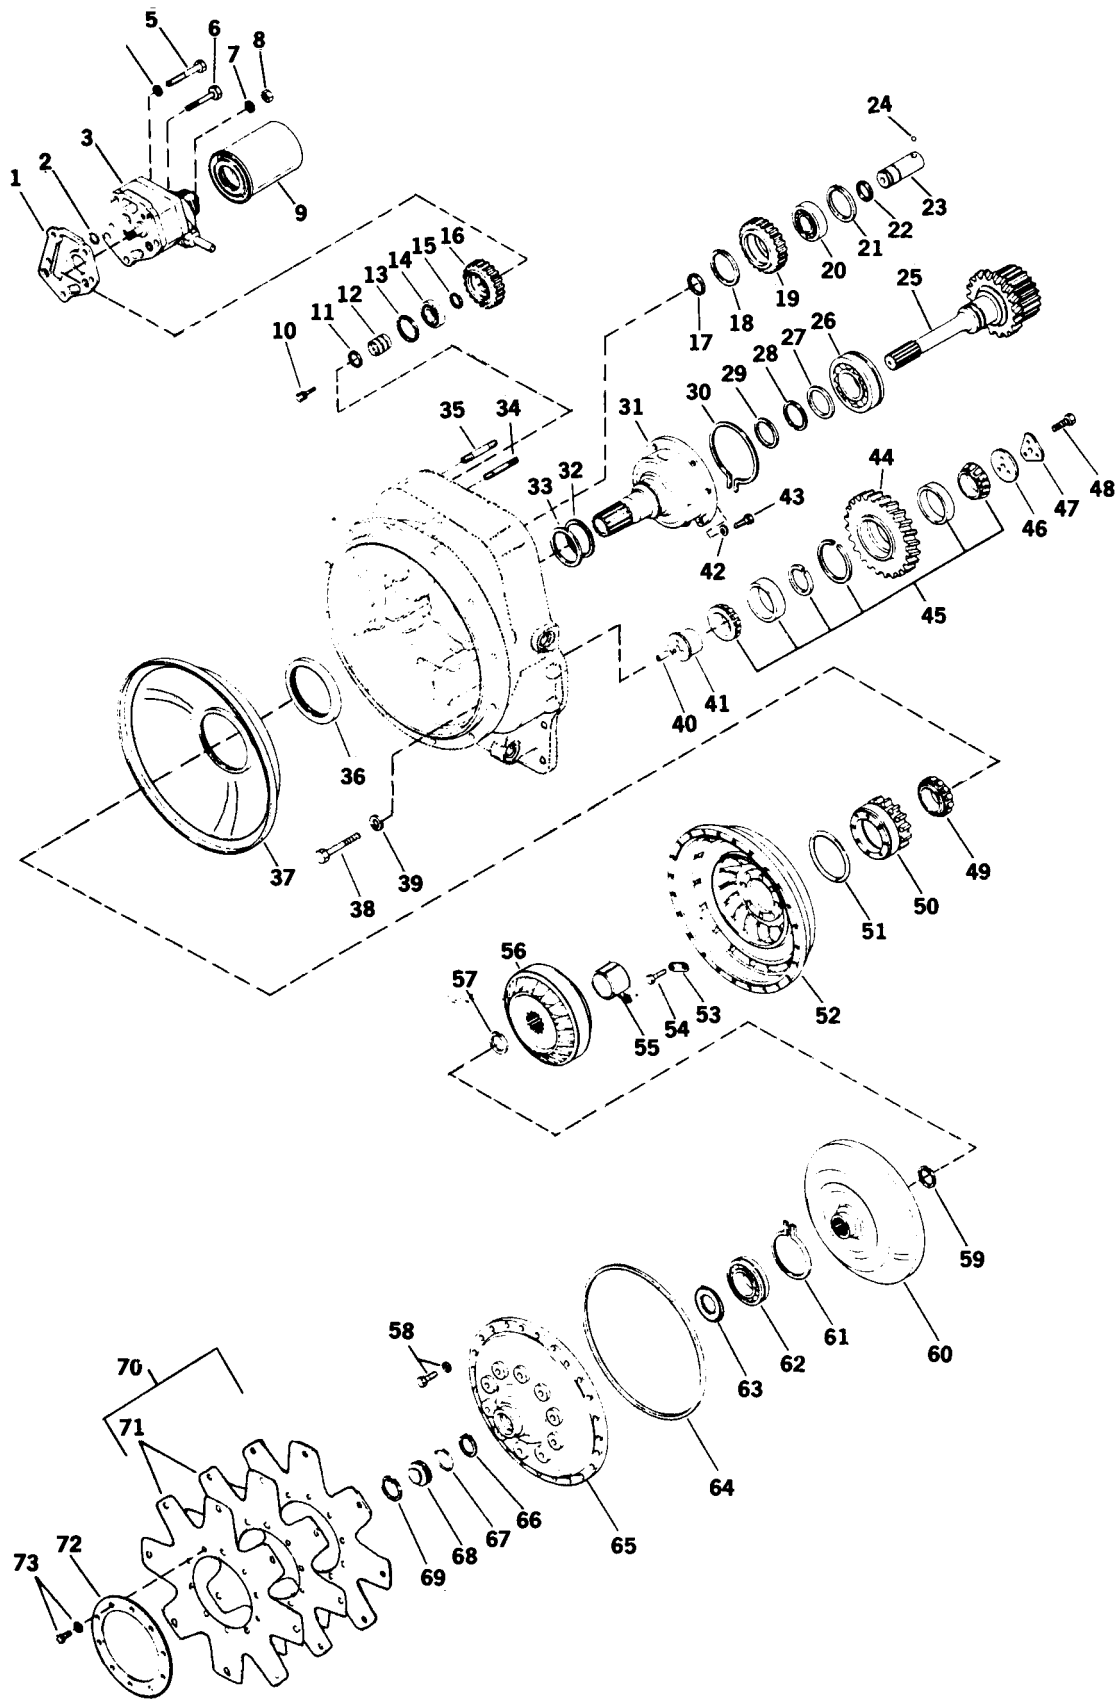

Figure 4-3. Converter Group
a. Remove filter element (9, figure 4-3), screws (5 and 6), lockwashers (4 and 7) and stud nuts (8), Remove charging pump (3) with gasket (1) and O-ring (2).
b. Remove screws and lockwashers (73), backing ring (72), and drive plates (70).
LEGEND FOR FIGURE 4-3